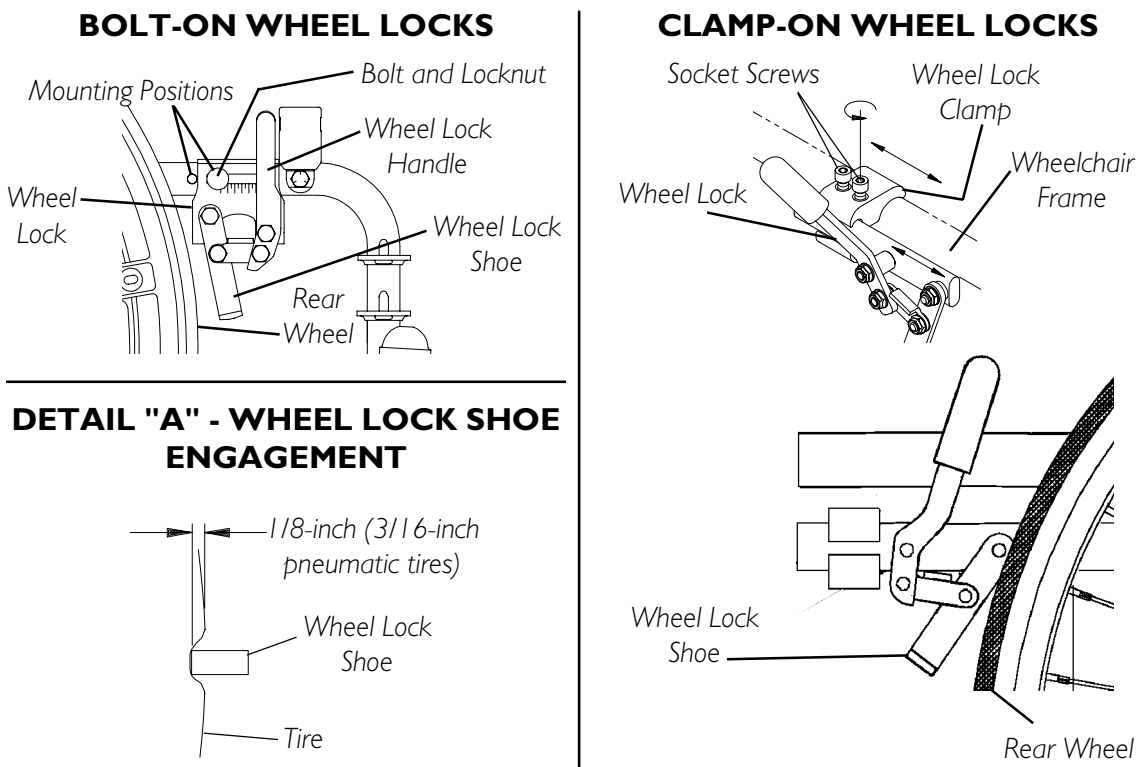

FIGURE 4 - ADJUSTING THE PATIENT OPERATED WHEEL LOCKS
ADJUSTING THE PATIENT OPERATED WHEEL LOCKS (FIGURE 4)
2. Perform one (1) of the following:
- B. **CLAMP-ON WHEEL LOCKS** - Loosen the two (2) socket screws that secure the wheel lock to the wheelchair frame.
6. Measure the distance the wheel lock is embedded into the tire as shown in DETAIL "A" of FIGURE 4.